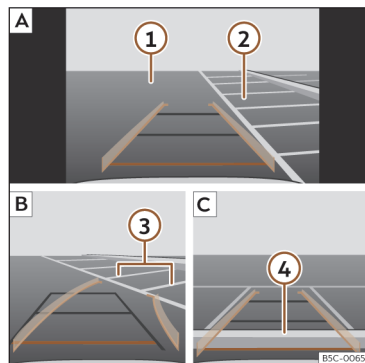

Fig. 199 Display on the Infotainment system screen.: parking with reverse assist.
Key to the **Fig. 199**:
- Place the vehicle in front of the parking space >>> **Fig. 199** ② **A**.
- Reverse while turning the steering wheel so that the yellow lines enter the parking space. The green and yellow lines must match the side boundary lines ③ **B**.
- Stop the vehicle when the red line has reached the rear boundary ④ **C**.